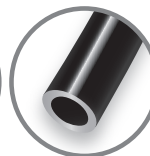

Fig. 16
2. If installing a single-path air line, choose a location for the tee fitting (I) on the wheel well or rear bumper. Determine and cut adequate length of air line (B) to reach to the tee from left and right side air springs. Make clean, square cuts with a razor blade or hose cutter (Fig. 16). Do not use scissors or wire cutters.